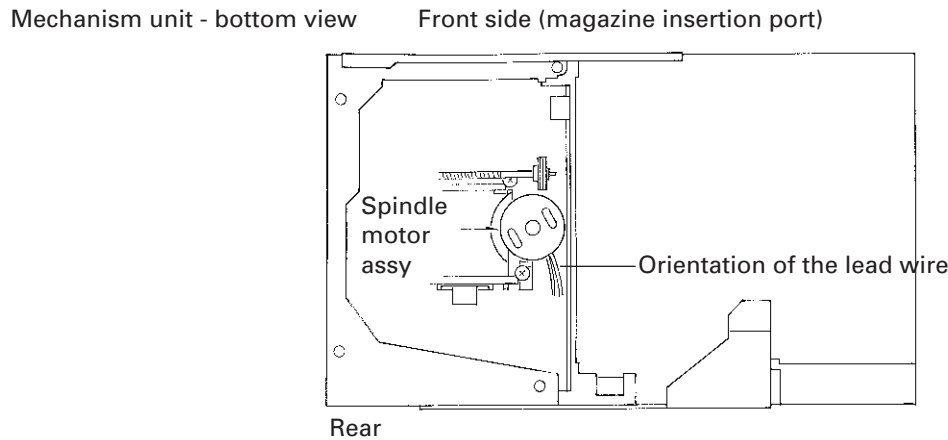

Fig. 26
1. Mount the spindle motor assy so that the lead wires face the rear of the mechanism unit (see Fig. 26).